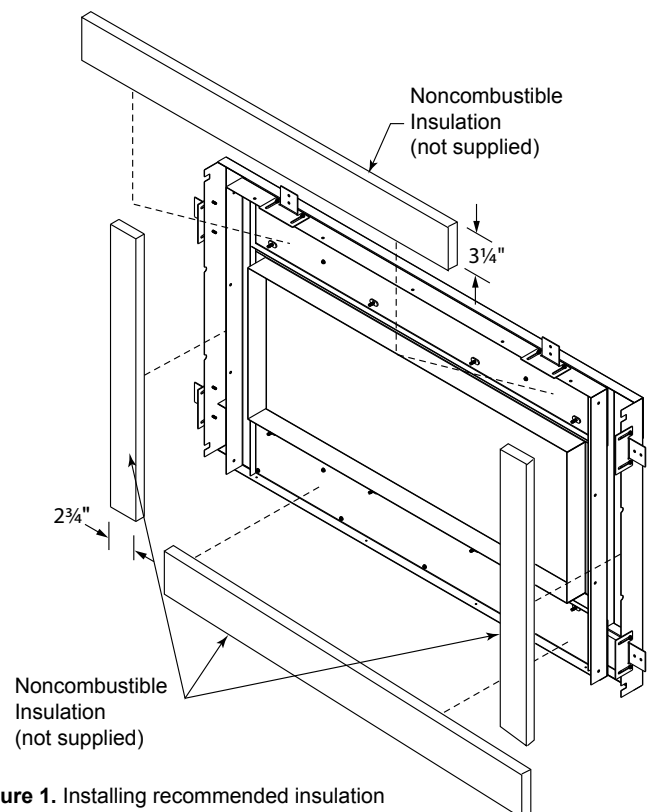

Figure 1. Installing recommended insulation
**NOTE:** To improve the thermal insulation properties of your outdoor kit, we recommend installing four (4) strips of noncombustible insulation (not supplied) behind the facing kit inside the perimeter of the outer frame. Before installing the face, install insulation with a thin coat of construction adhesive. Figure 1.